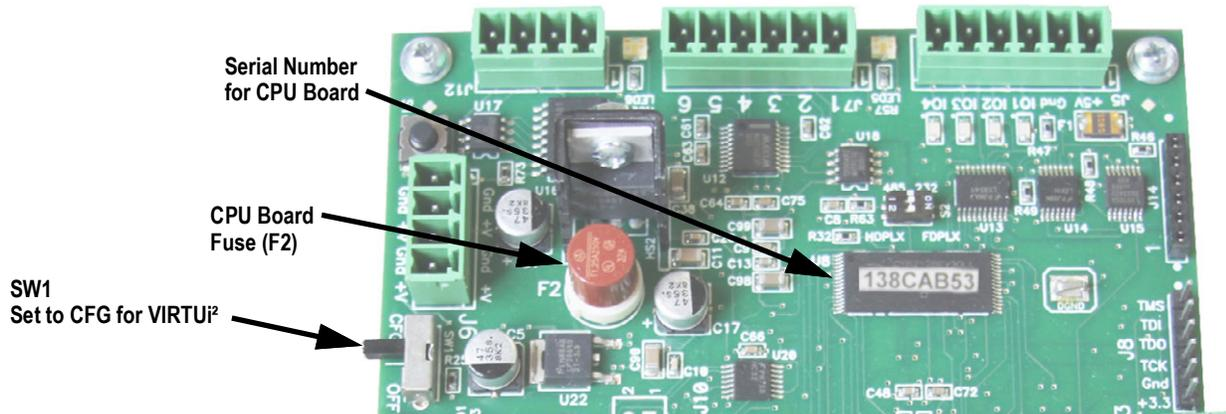

Figure 5-1. SW1 Location on CPU Board
3. For each secondary device, enter the desired ID (located on the CPU board; see Figure 5-1 on page 67).
1. Set SW1 to CFG, if not currently connected to the iQUBE2. See Figure 5-1 on page 67.